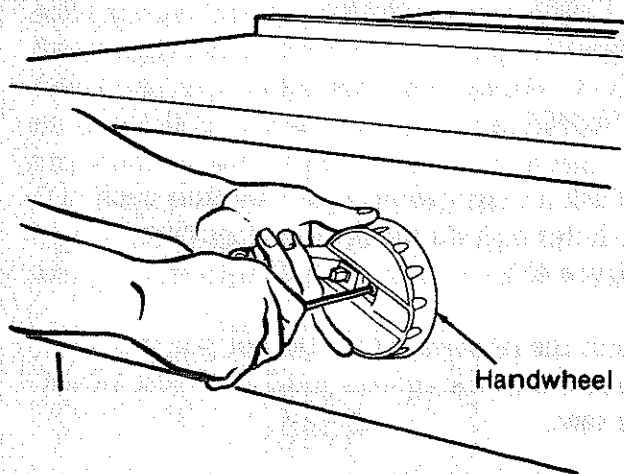

Fig. 65
2. Attach the *handwheel* using a screw and external lockwasher. (Figures 65 & 66)